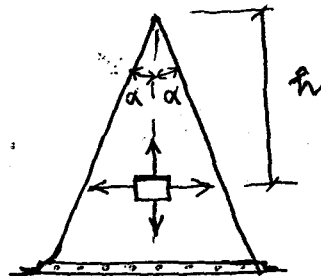

Figure Q.10
- Q.10. A thin-walled cone (wall thickness t) is supported on a horizontal base as shown in Figure Q.10 and subjected to internal gas pressure p . Neglecting the weight of the cone itself, find the principal membrane stress σ_1 and σ_2 at the level h below the apex.